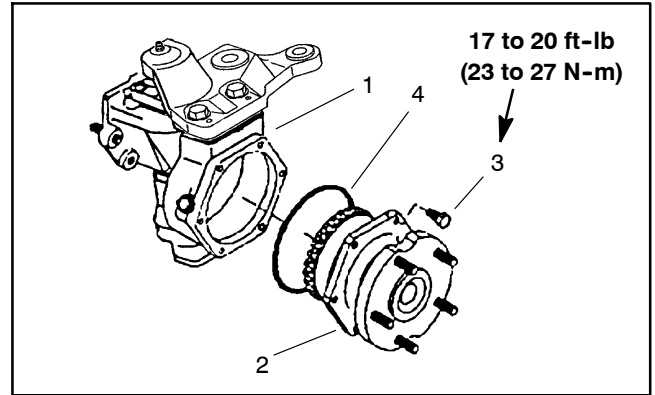

Figure 32
1. Remove the axle cover mounting screws. Remove the axle cover from the axle case as an assembly (Fig. 32).